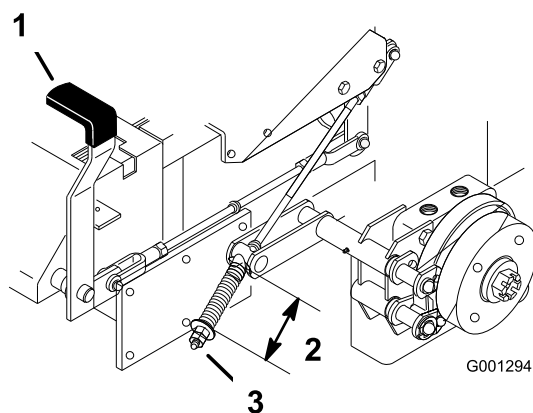

Figure 62
2. Measure the length of the spring. Measurement should be 2-1/2 inch (64 mm) between the washers (Figure 62).
3. If adjustment is necessary, release the parking brake, loosen the jam nut below the spring and adjust the nut directly below the spring (Figure 62). Turn the nut until the correct measurement is obtained. Turn the nut clockwise to shorten spring length and turn counter-clockwise to lengthen the spring.